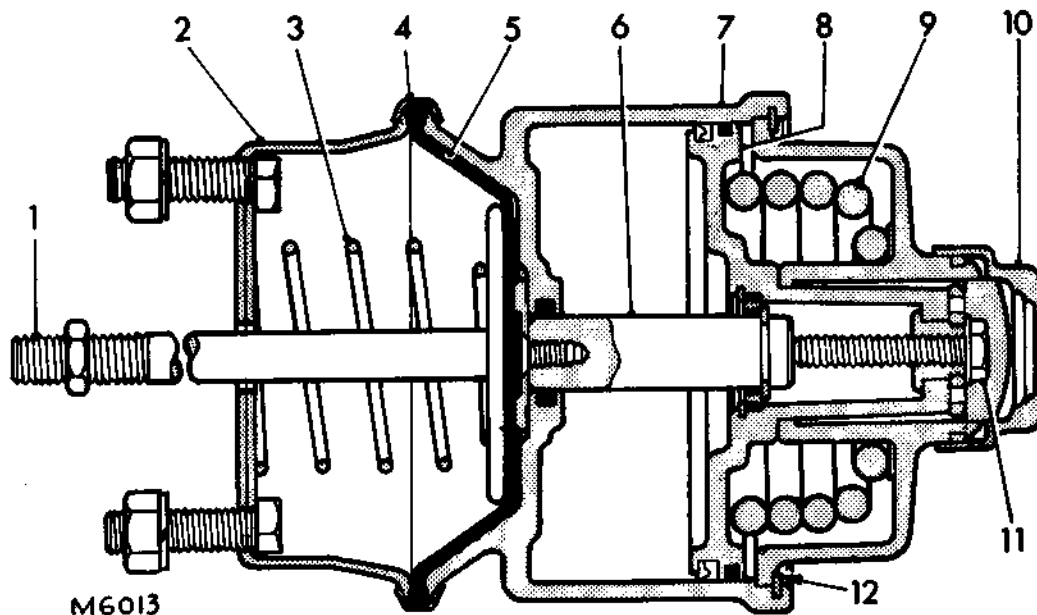

FIG. 1. TYPICAL SPRING BRAKE ACTUATOR
**DANGER:** Before starting work on the spring brake actuators, release all air from the system and remove the release bolt (located under the end-cap). See paragraphs 1 and 2, and Fig. 1 below.